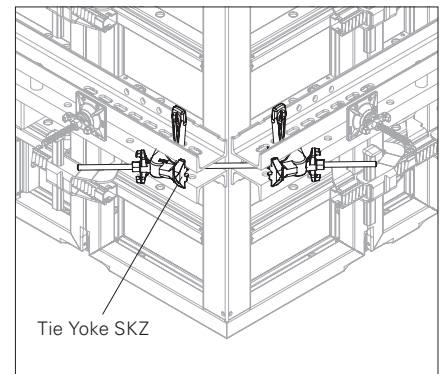

Fig. E2.07c
The outside corner can also be implemented with the Tie Yoke SKZ (article no. 024210) instead of the waler stop (86) and anchor tie yoke (87). For assembly, see the Instructions for Assembly and Use for VARIO GT 24 Girder Wall Formwork. (Fig. E2.07c)